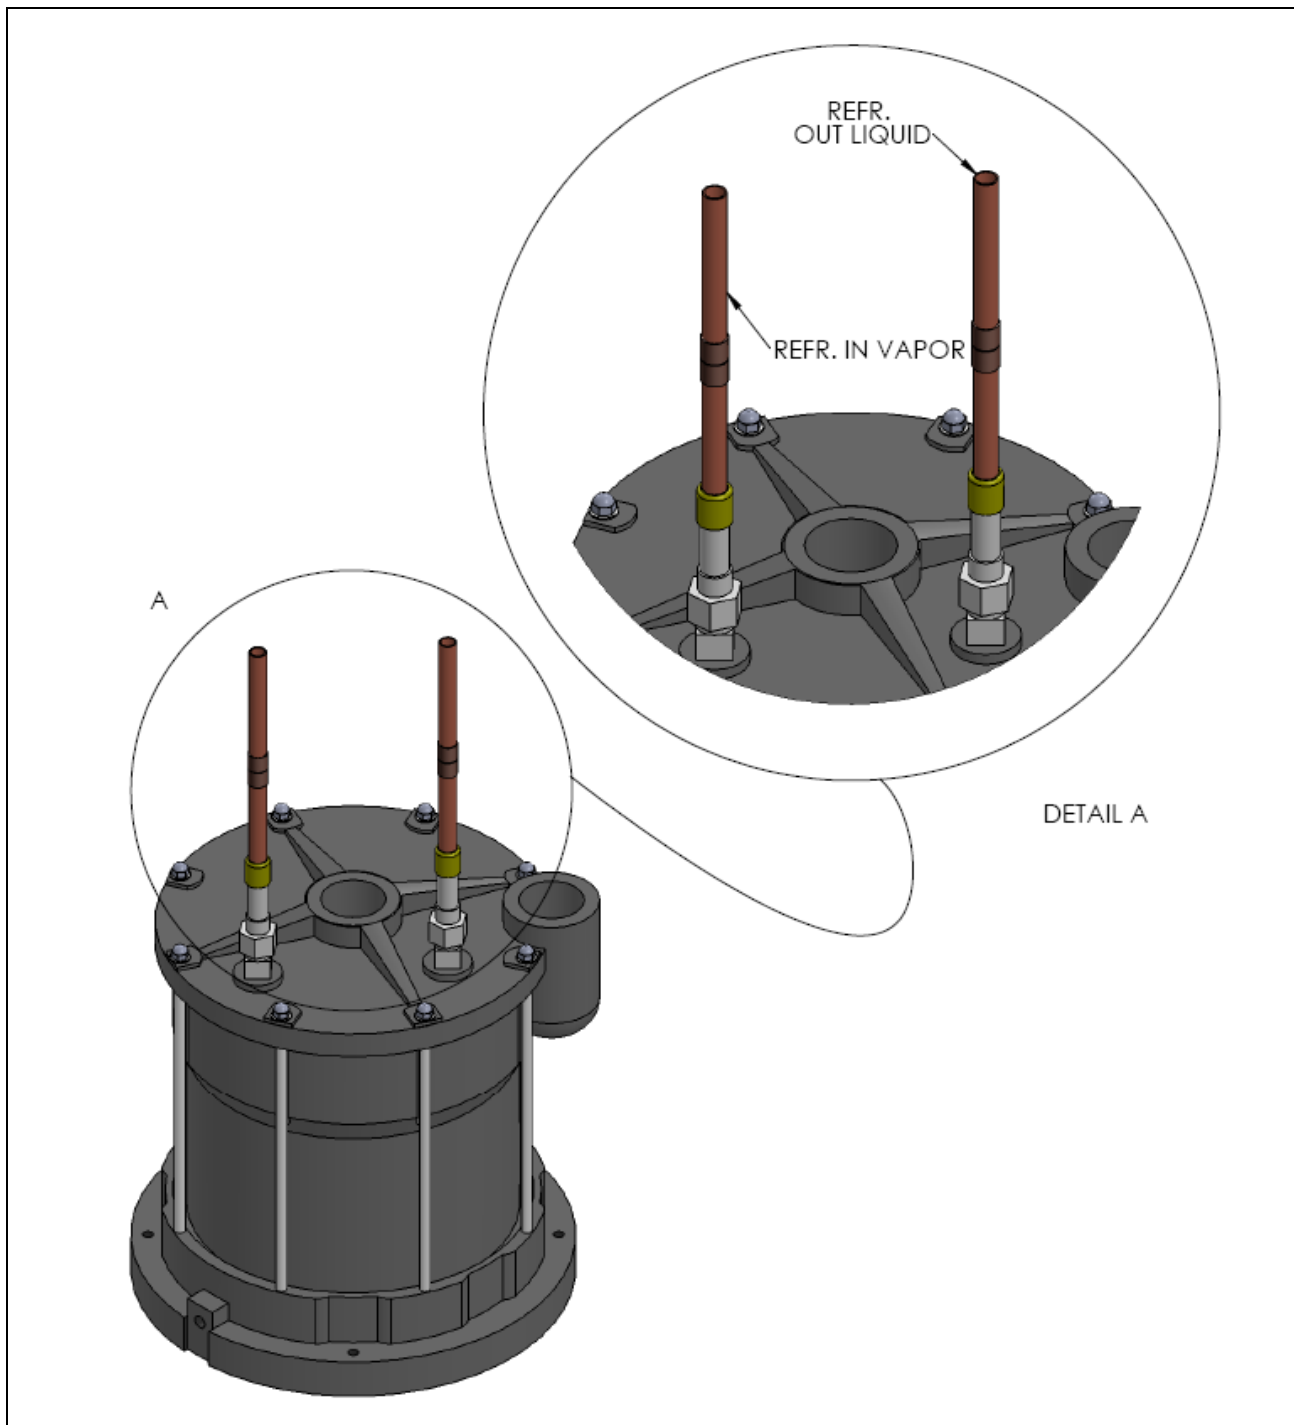
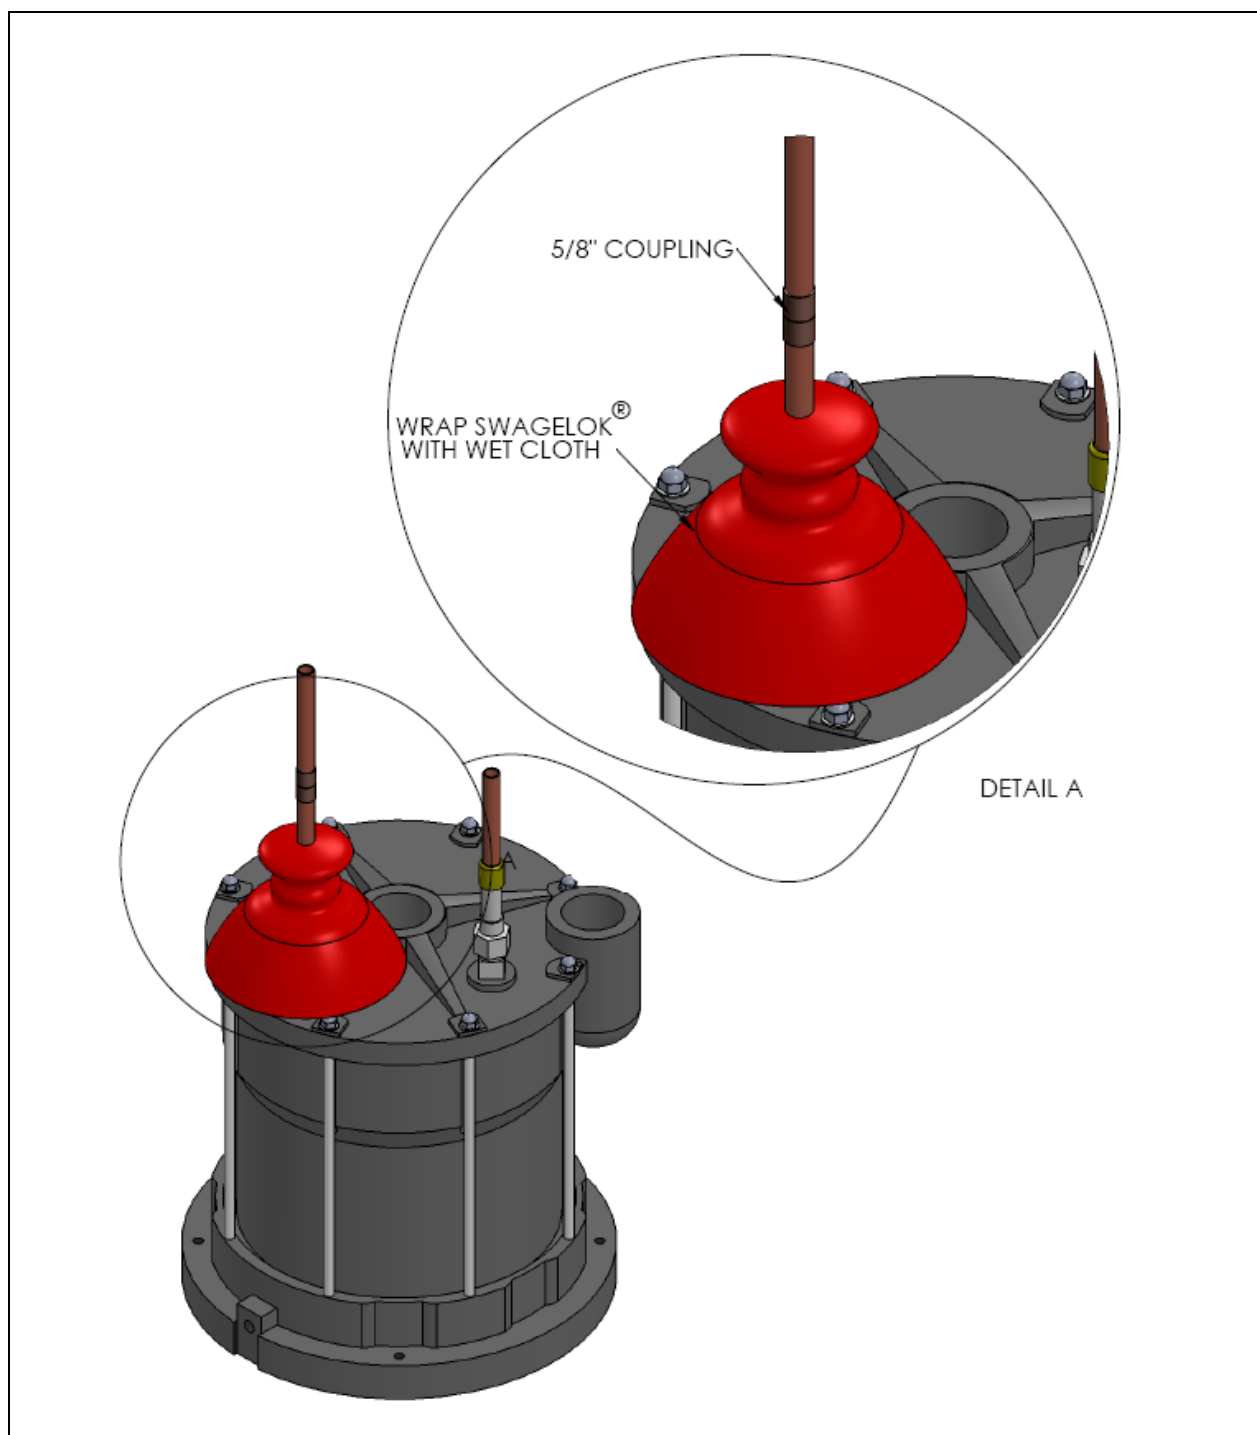

Figure 3. Heat Exchanger Refrigerant Connections
Figure 4. Wrap SWAGLOK® Joints
The refrigerant connections are shown in Figure 3. Each connection is 5/8 inch OD copper tube. The refrigerant line connections are brazed as follows:
4. Before brazing the refrigerant joints, protect the SWAGLOK[®] fittings illustrated in Figure 3 by wrapping each joint with a wet cloth, and further protect it from direct torch flame with an inflammable shield as shown in Figures 4, 5 and 6.